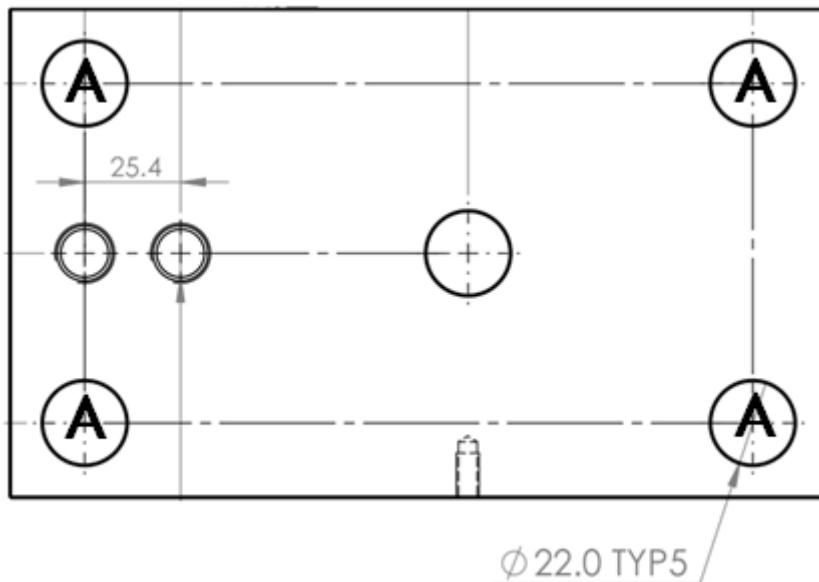

Figure 9: RSLC-4 Plate Dimensions
1. Figure 9 illustrates the RSLC-4 plate. Drill four holes into the concrete base as indicated (A).